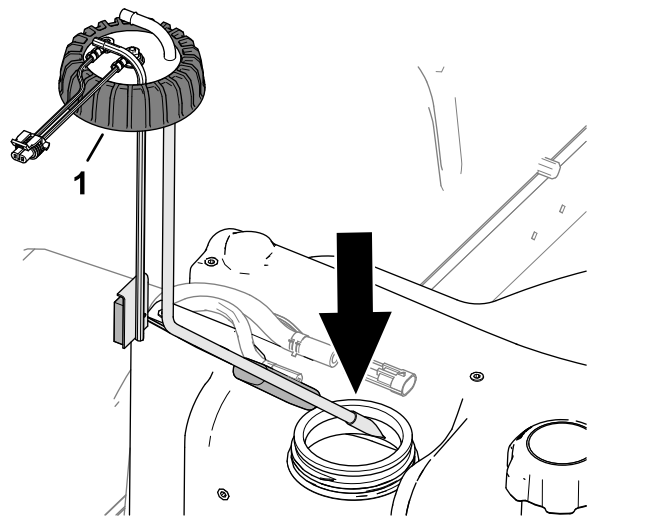

Figure 87
- 2. Carefully assemble the fuel pick-up tube and float into the fuel tank (Figure 87).